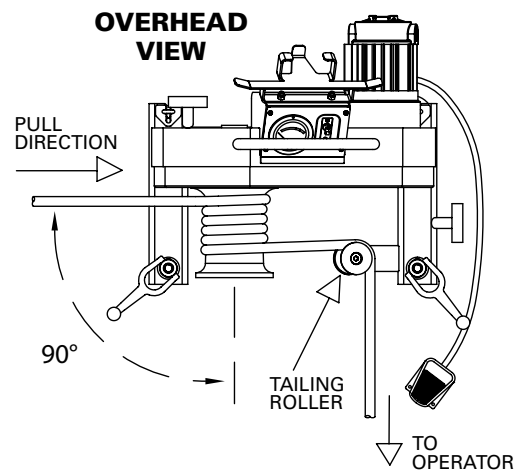

Figure 28a
As shown in the overhead view, Figure 28a, the pulling rope must approach the capstan at a 90° angle. This will help avoid rope overlap.
Make several wraps of the pulling rope around the capstan, beginning at the housing end of the capstan. See *Figure 28a*.
Next, guide the pulling rope around the tailing roller as shown in *Figure 28a*. This will enable the operator to stand at a 90° angle to the cable puller and out of the direct line of tight pulling rope.
- ALWAYS place the foot switch on the floor on the capstan side of the puller and use black roller to guide rope so that operator stands at 90° angle to the cable puller and out of the direct line of tight pulling rope. See Figure 28a.
- ALWAYS wrap rope beginning at housing end of capstan as shown in Figure 28a.
- Rope must approach capstan at a 90 angle. See Figure 28a.